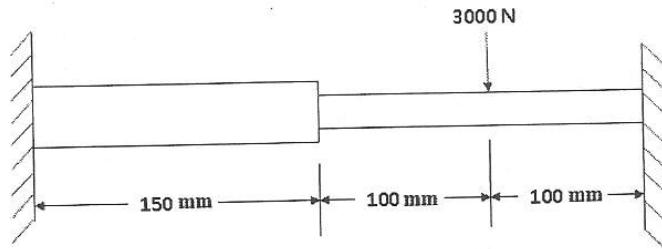

Figure 3b
- B Determine the displacement and slope (i.e. θ) at the load point for the stepped beam show in Figure 3b. Each elements has $E=200$ GPa. The area moment of inertia are given as $I_1=1.25 \times 10^5 \text{ mm}^4$, and $I_2=4 \times 10^4 \text{ mm}^4$. Clearly show the elemental stiffness matrices (k) each element, assembly of k matrices to get global stiffness matrix (K) and application of boundary conditions. 10